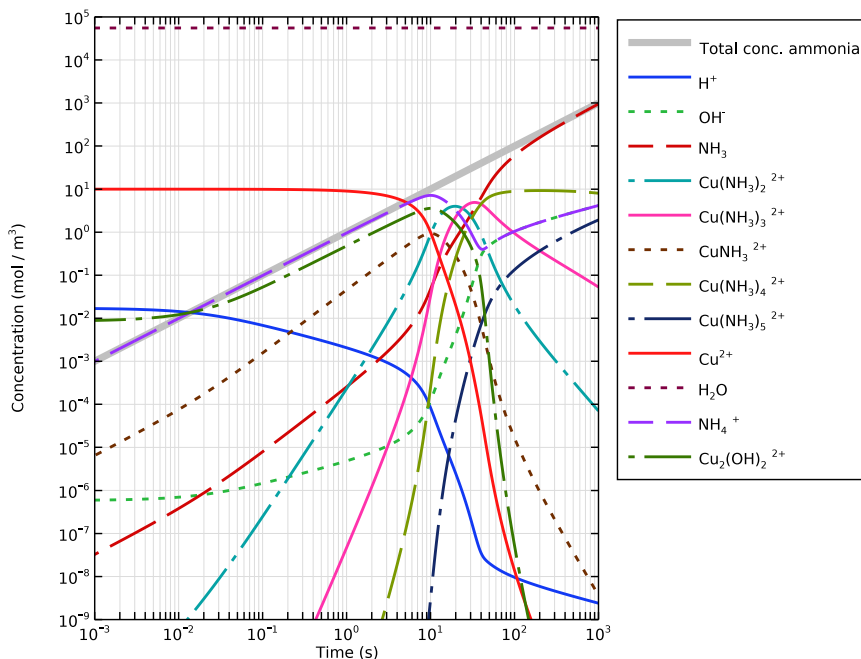

Figure 1: Concentration of species versus time. The constant source of ammonia gives a linear relationship between total concentration ammonia and time.
The evolution of concentrations, as total concentration of ammonia is increased, is presented in Figure 1. As might be expected, ammonia is primarily present as ammonium at low total concentrations of ammonia, and primarily as the free base at high total concentration. In the transition region, when the total concentration of ammonia is similar to the total concentration of copper(II) ions in the system, the picture is more complicated, and ammine complexes of different coordination numbers form.